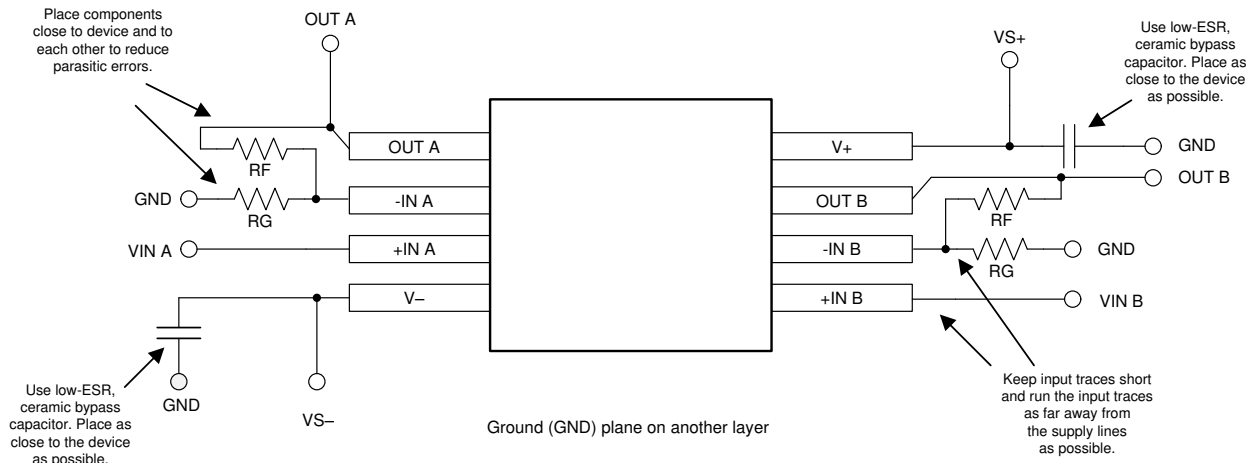

Figure 39. Layout Example
- Place the external components as close to the device as possible. As shown in Figure 39, keeping RF and RG close to the inverting input minimizes parasitic capacitance on the inverting input.